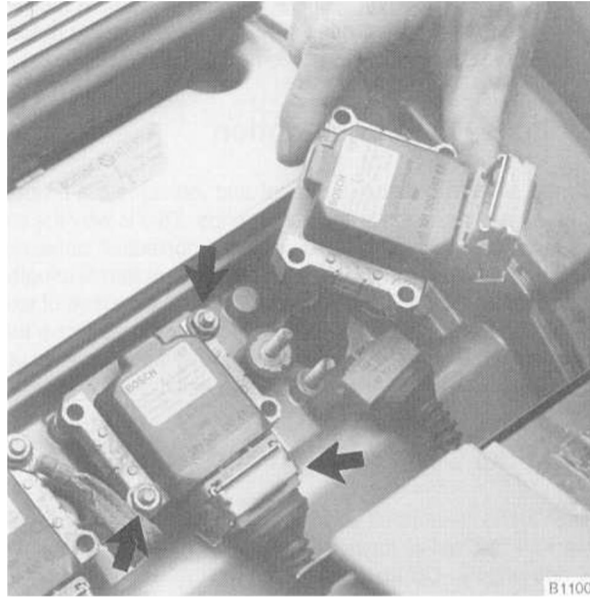

Fig. 6. Remove ignition coils on M50/M60 engines by disconnecting harness connector and removing mounting nuts (arrows)
- On M50 and M60 engines, disconnect the harness connectors from the ignition coils by lifting up on the retaining clip. Remove the coil mounting nuts and remove the coils. See Fig. 6. Remove the spark plugs.